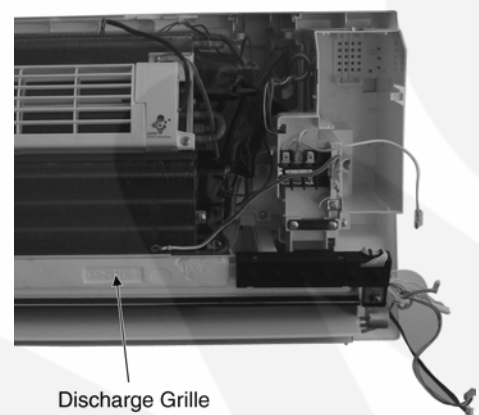

Fig. 5
- Pull out the Drain Hose (behind the Discharge Grille) from outlet to remove the Discharge Grille. (Fig. 5)